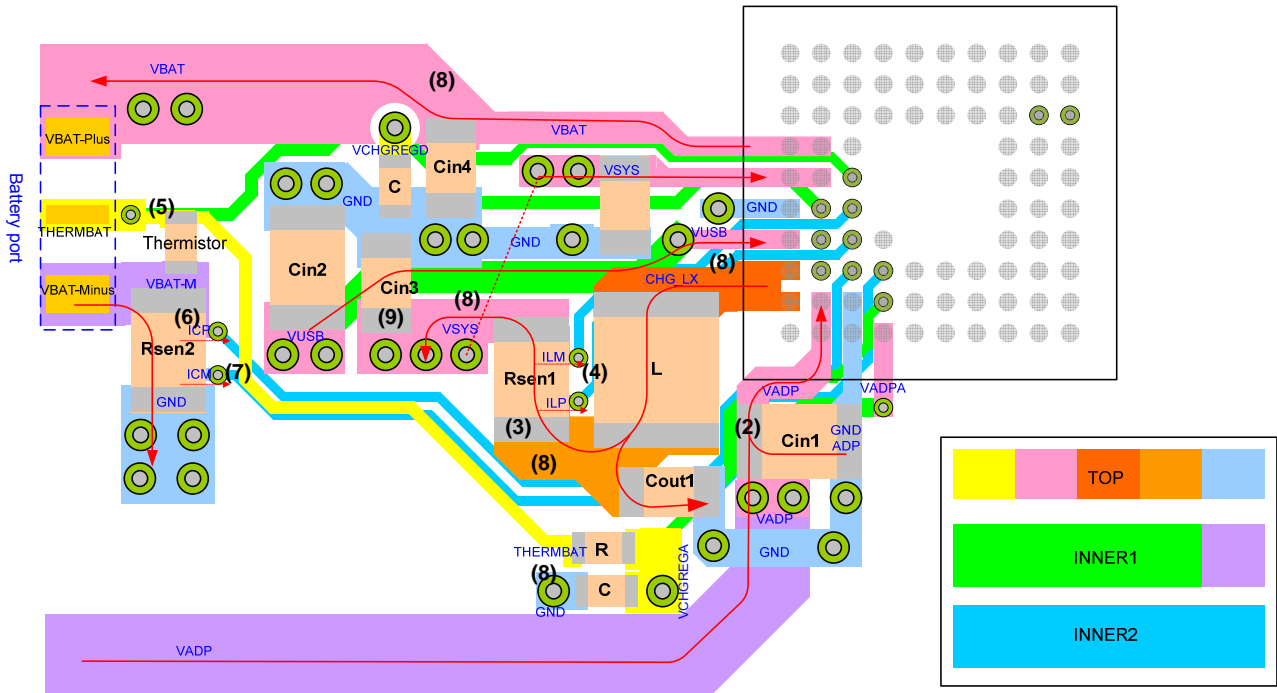

Fig. 1-4: Example of Charger Block Pattern
- (1) Place the parts to minimize the switching current loop. (Figure 1-4: red line)
- (2) Place “VADP” capacitor as close as possible to RC5T619-0xxx, and route the line to RC5T619-0xxx short and widely in order to minimize resistance.
- (3) Because “ R_{SEN1} ” is the resistance which fixes accuracy of the current, use the high accuracy it as possible. (Refer to the “Recommended External Parts List” on P.11)